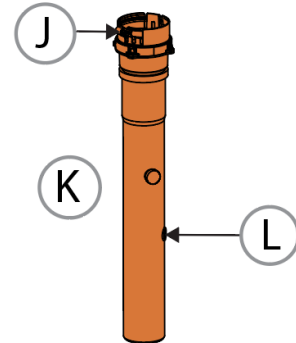

Figure 3 CX Exhaust Duct Removal
- a. Unplug the temperature sensor (L) on the exhaust duct (K) (see Figure 3).
- b. Loosen the gear clamp (J) to disconnect the exhaust venting from the exhaust duct. Clear a few inches above the duct, either by: